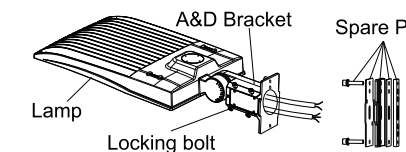

Figure 15
Step 1: Remove the spare parts from A&D bracket. (Figure 15)